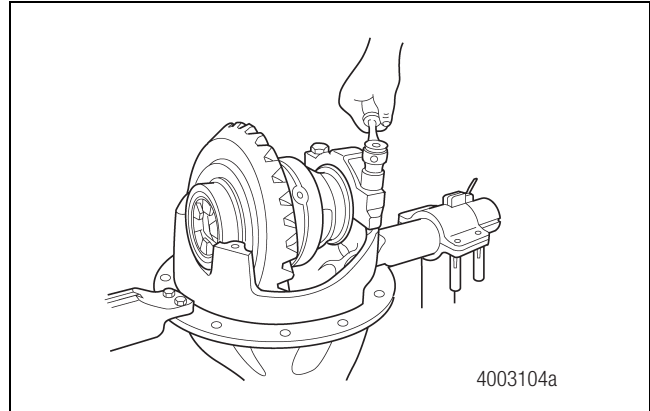

Figure 4.23
3. Use a 24 mm socket and wrench to install the bearing cap bolts. Tighten the bolts to 123-137 lb-ft (167-186 N•m). Figure 4.23.